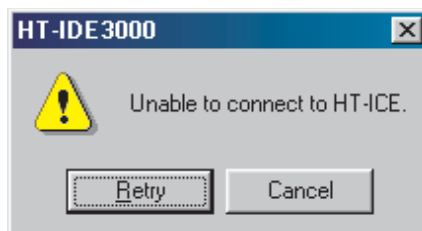

Fig 3-2
- If the last project you worked on HT-IDE3000 is in emulation mode (using HT-ICE), then Fig 3-2 will be displayed if one of the following conditions occurs.